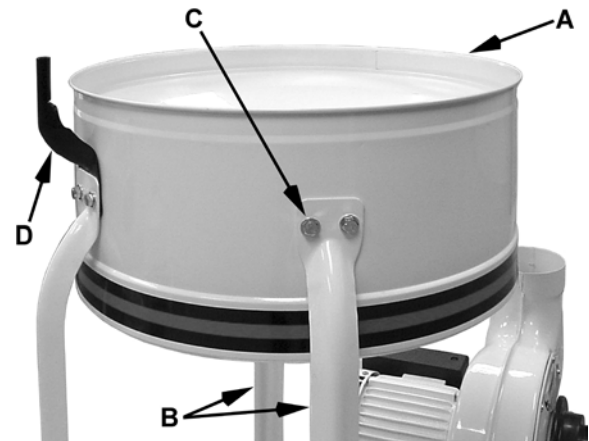
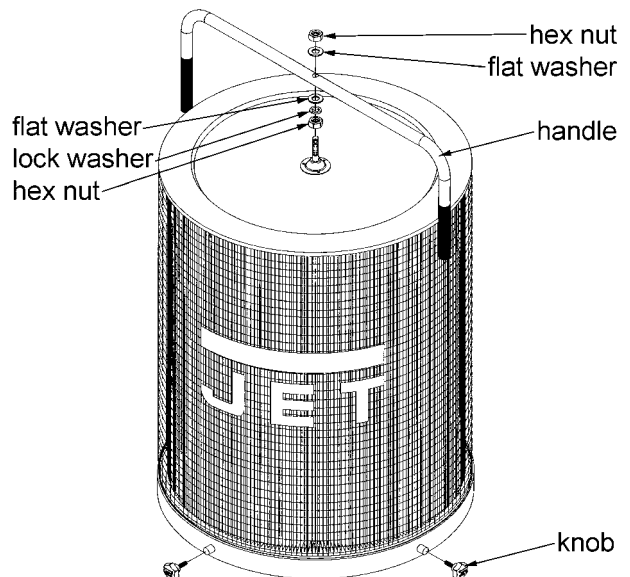

Figure 5
Figure 11
6. Install the housing (A, Fig. 5) to two support brackets (B, Fig. 5) using four M8 x 16 hex cap bolts, eight M8 flat washers, and four M8 hex nuts (C, Fig. 5). *Be sure hose opening faces fan housing.*
7. Before attaching third support bracket place the *hanger bracket* (D, Fig.5) between the support bracket and the housing.
4. Mount the handle onto the canister filter with two M10 hex nuts, two M10 flat washers, and a M10 lock washer (Figure 11).
5. Mount the canister filter on top of the collector housing (A, Fig. 5) and tighten the knobs on the canister filter (Figure 11).